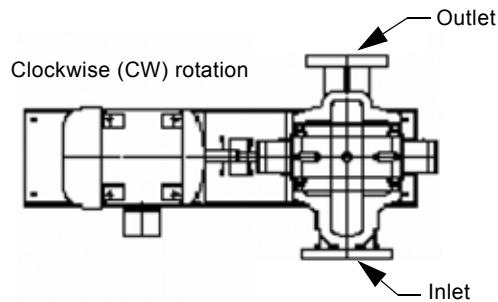

Fig. 10 KP, plan view clockwise (CW) rotation
3. Check shaft alignment once again after final piping connections to the pump have been made, motor wiring checked, correct direction of rotation has been established, and pipes have been filled with liquid. See figs 10 and 11.